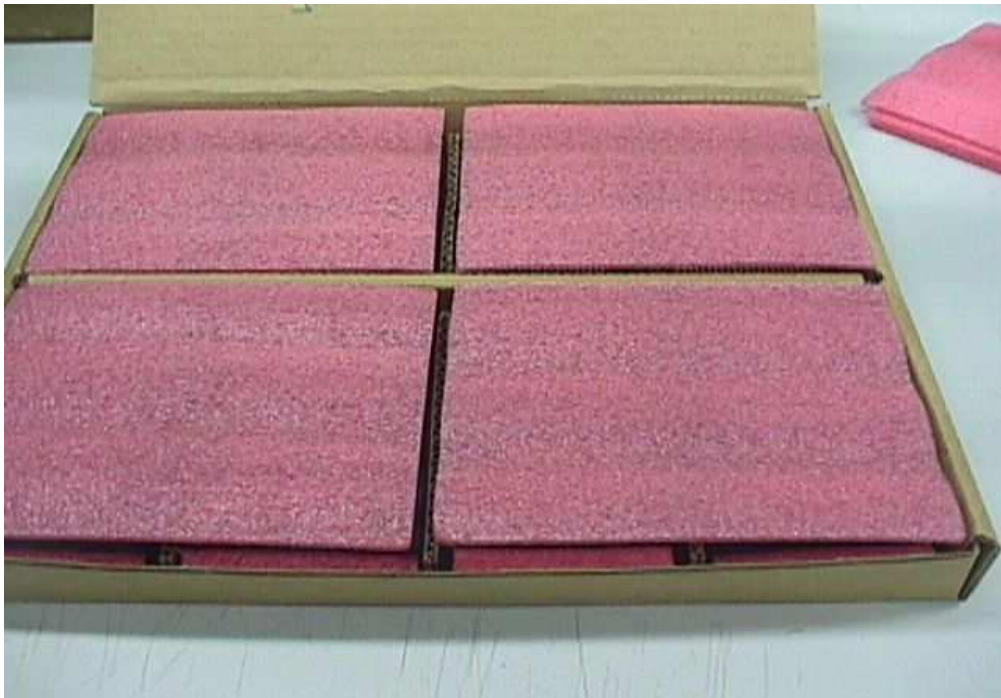

Figure 1
5.5. Place each two pieces of poly sheeting over connectors both cells(see: figure 1).
如图1所示在两个格子的产品的上面各平放二块珍珠绵。